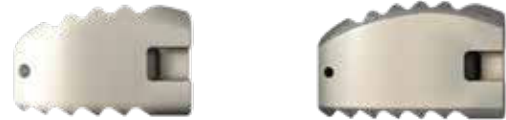

Figure 3a
- **ROI-C Anatomic:** Designed with a curved superior surface that compliments healthy endplate contours. The anatomic implant has a 6° of built-in lordosis. ROI-C anatomic's design is available in both PEEK OPTIMA® and titanium coated (Figure 3a).